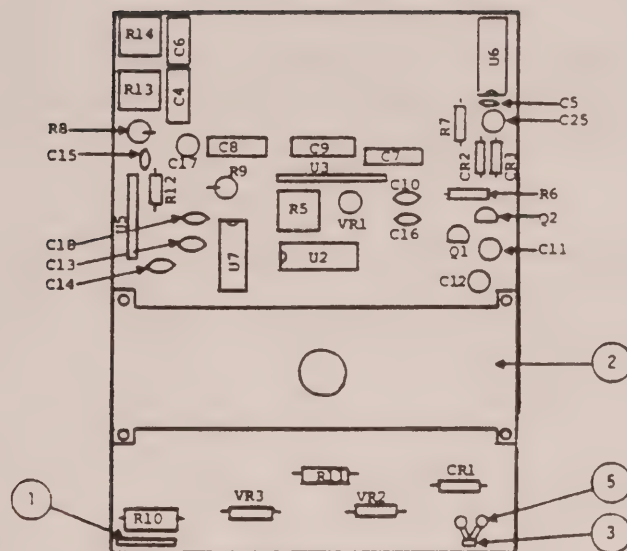

FIGURE 6. LARGE CIRCUIT BOARD RMS MODELS
4. Adjust potentiometer R13 - the AC zero adjustment (shown in Figure 6) - until the digital display reads 000 or 001. Make this adjustment very slowly to allow instrument to stabilize.
7. Adjust potentiometer R14 - the AC full-scale adjustment (shown in Figure 6) - until digital display reads 190.0 ± 1 digit.